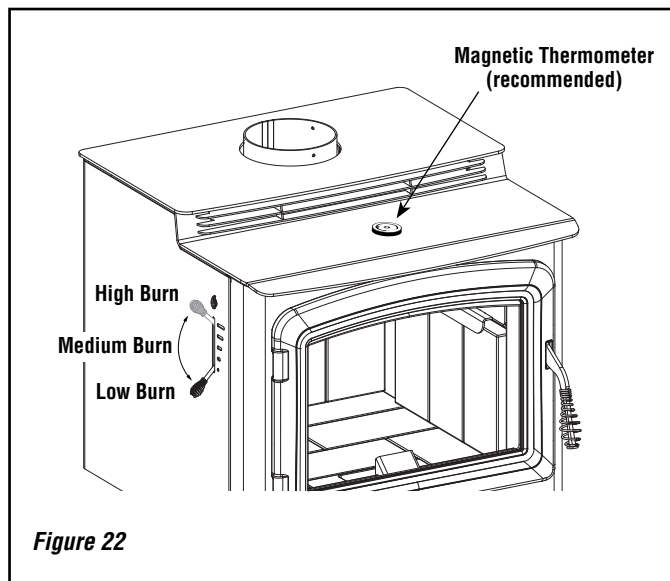

Figure 22
5. **When operating any wood burning appliance, it is important to become familiar with how the damper control affects heat output and the overall temperature of the appliance. A stove thermometer can be a helpful tool to help ensure you are not over-firing your appliance and it will also ensure you are burning fuel at a rate that is most efficient. Place a stove thermometer on the top of the appliance as shown in *Figure 22*. Monitor the temperature every 15 minutes or so until you become more familiar with your appliance. Close the damper all the way down if you begin to reach 500 degrees, as this is a sign that you are operating your appliance at too high a temperature.**